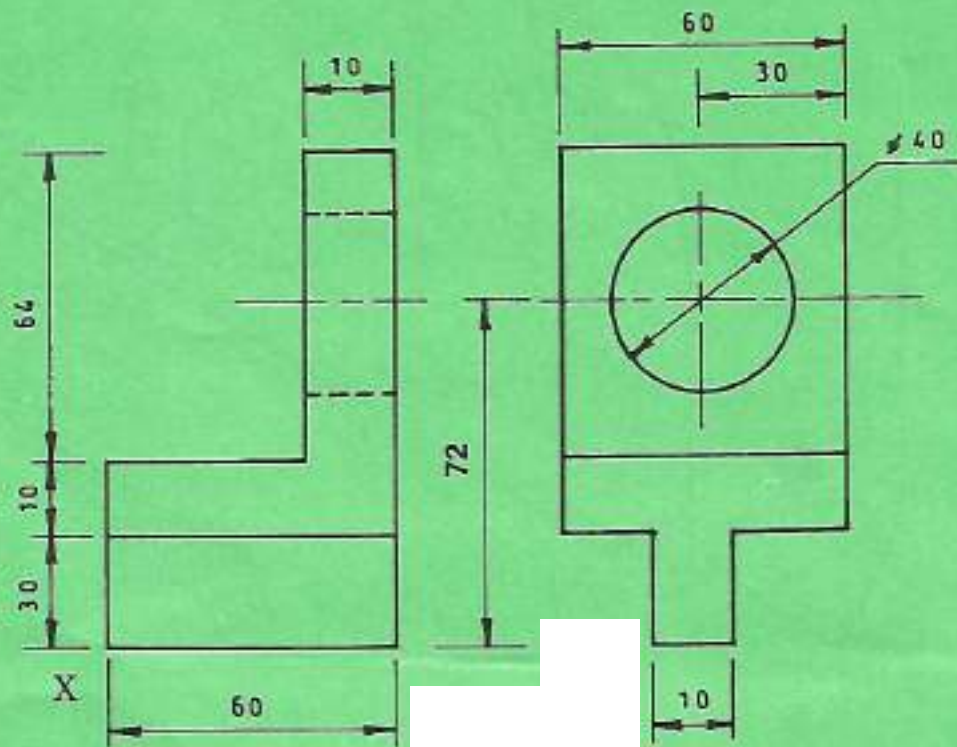

Fig. 4
5. Figure 4 shows orthographic views of a bearing bracket. Draw the bracket in isometric projection with corner X as the lowest point. (15 marks)